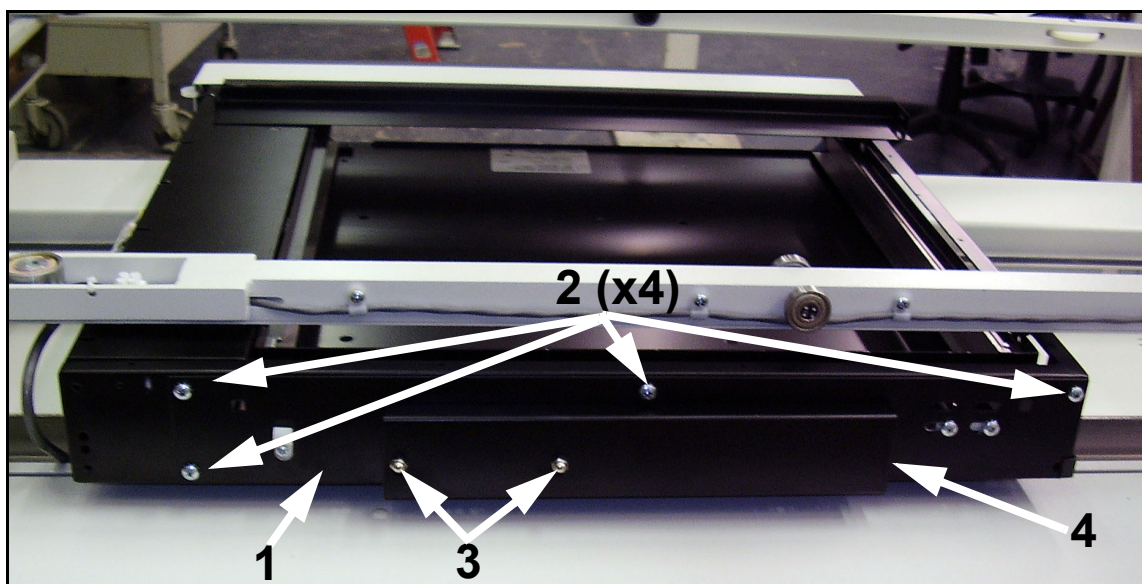

Figure 2-10. PBL Plate Assembly
- 20** Install the PBL plate assembly (1 in Figure 2-10) on the bucky and secure it in place with four mounting screws (2).
- 21** Unscrew the two acorn nuts (3) and remove the cover (4).